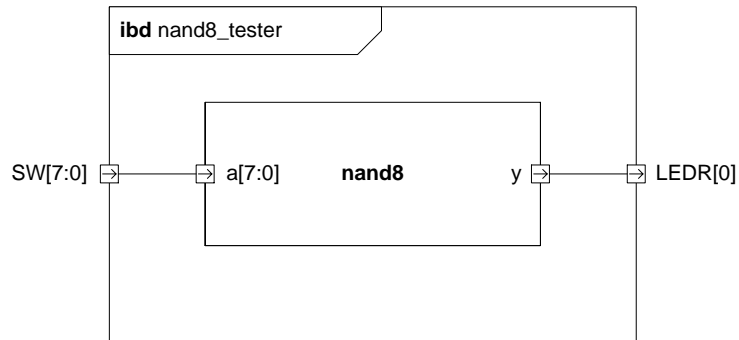

FIGURE 5 8-INPUT NAND
- 1) Design the 8-input NAND gate depicted in Figure 5 using a loop statement.